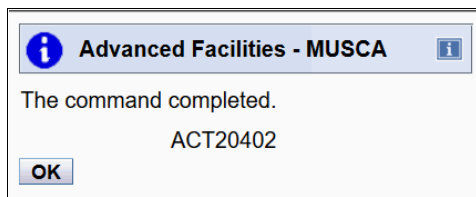

Figure 7-13 Activate configuration success
16. When the activation is complete, the message shown in Figure 7-13 is displayed.